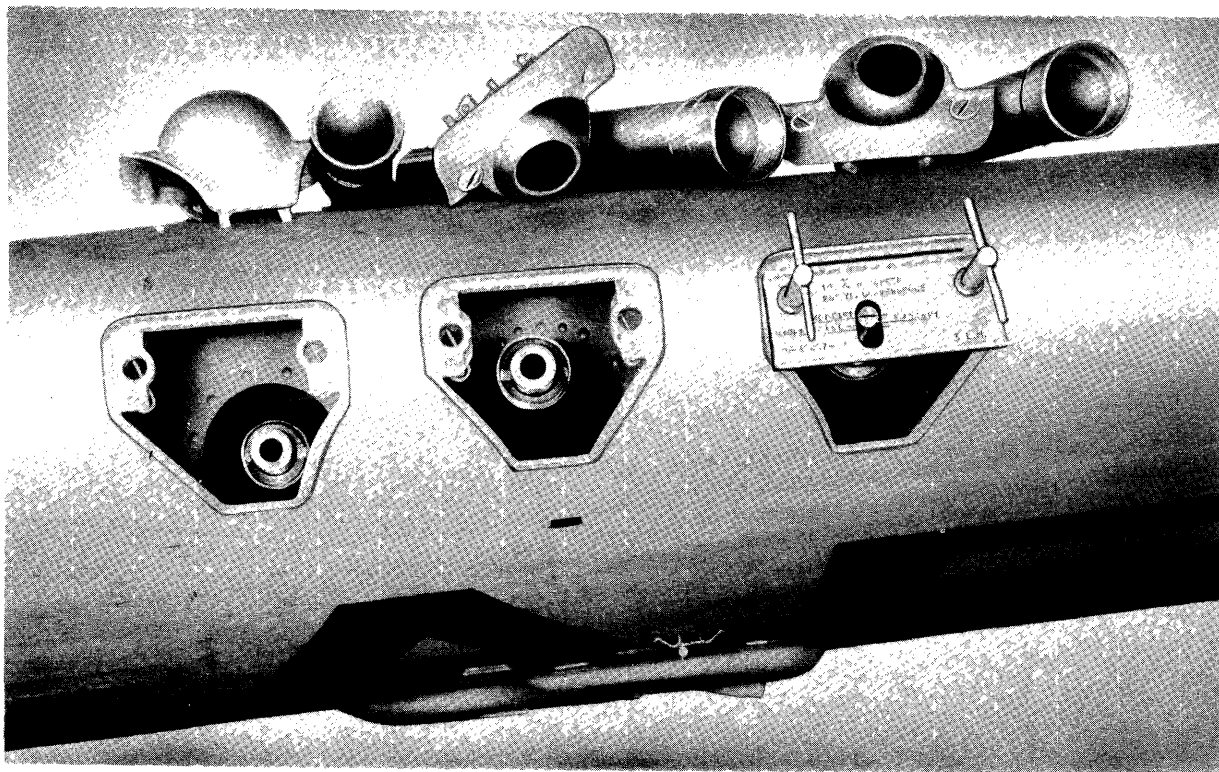

Figure 100 - No. 3 Left-Hand Fixture Attached to Leading Edge
- (e) **Figure 100.** - Attach proper fixture - for example, the one marked "3 LH" is for No. 3 outboard left-hand gun, the fixture being attached to the leading edge by means of the hand operated Dzus